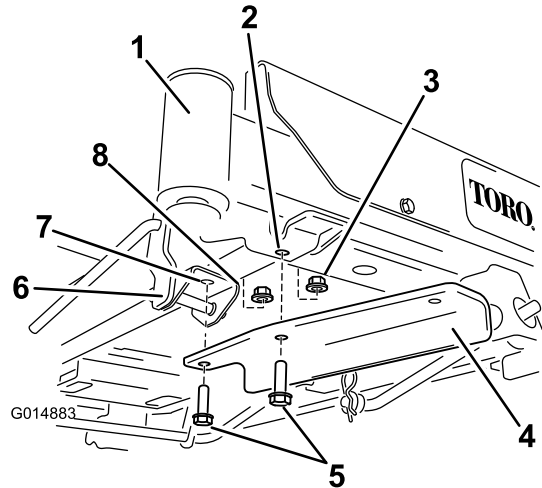

Figure 7
- For machines with a foot assist lift pedal, Remove the forward fasteners in the foot assist lift pedal bracket and secure the bracket using 2 bolts and 2 lock nuts (Figure 7).